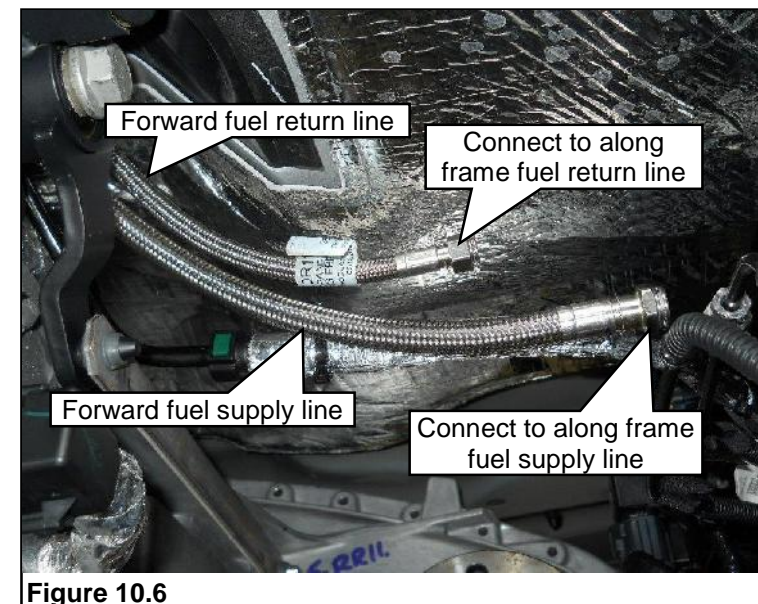

Figure 10.6
5. From underneath the vehicle, route the forward fuel supply and return lines over the transmission, up into the engine compartment just under the cowl and dash panel. The forward fuel lines can be found in P12DH-ENGKIT-A. Press the forward fuel return lines into retaining clip in OEM bracket. **Figures 10.6 and 10.7.**